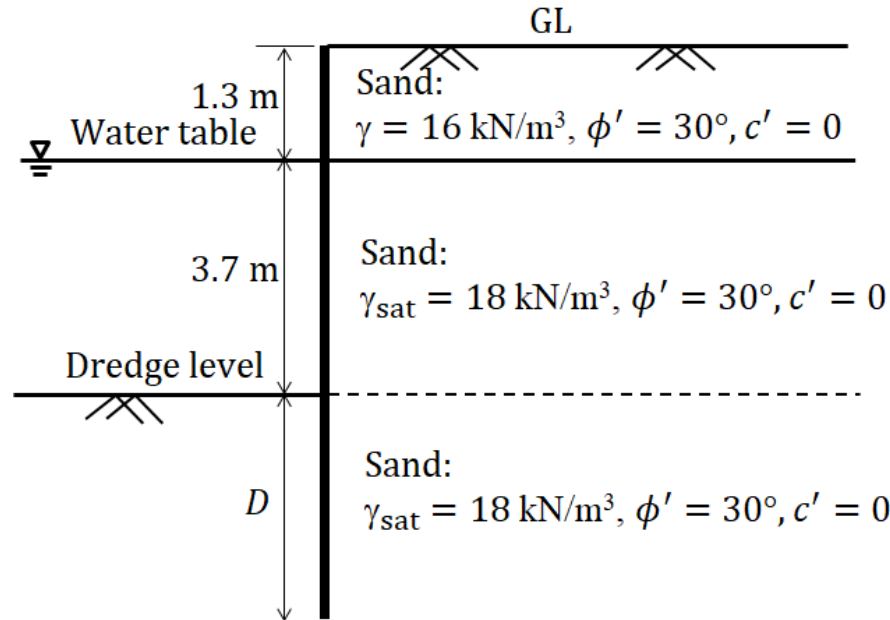

Fig. 1
8. Fig. 1 shows a cantilever sheet pile wall penetrating a granular soil. Determine (i) Theoretical depth of embedment (D), (ii) The total length of sheet piles for a 30% increase in D and (iii) The minimum section modulus of the sheet piles if allowable bending stress is 165 MPa.